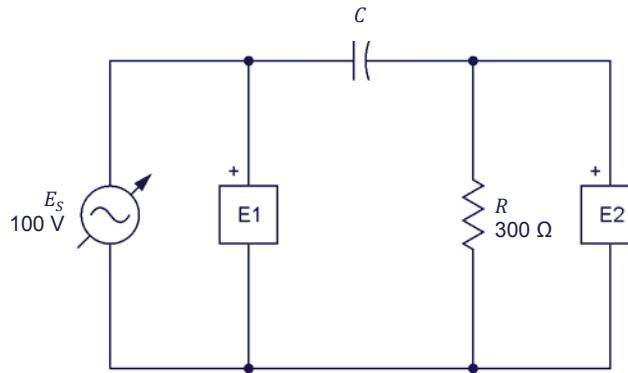

Figure 1-16. AC circuit with a resistor and a capacitor.
- 19.** Modify the circuit so that it is as shown in Figure 1-16 (replace the inductor by a capacitor). This circuit contains a resistor  $R$  and a capacitor  $C$ . Capacitors are studied in the next unit of this manual.
The value of capacitor  $C$  in the circuit of Figure 1-16 is referred to as the capacitance and is expressed in microfarads ( $\mu\text{F}$ ). The capacitance value to be used depends on the frequency of the ac power source as is indicated in Table 1-3.